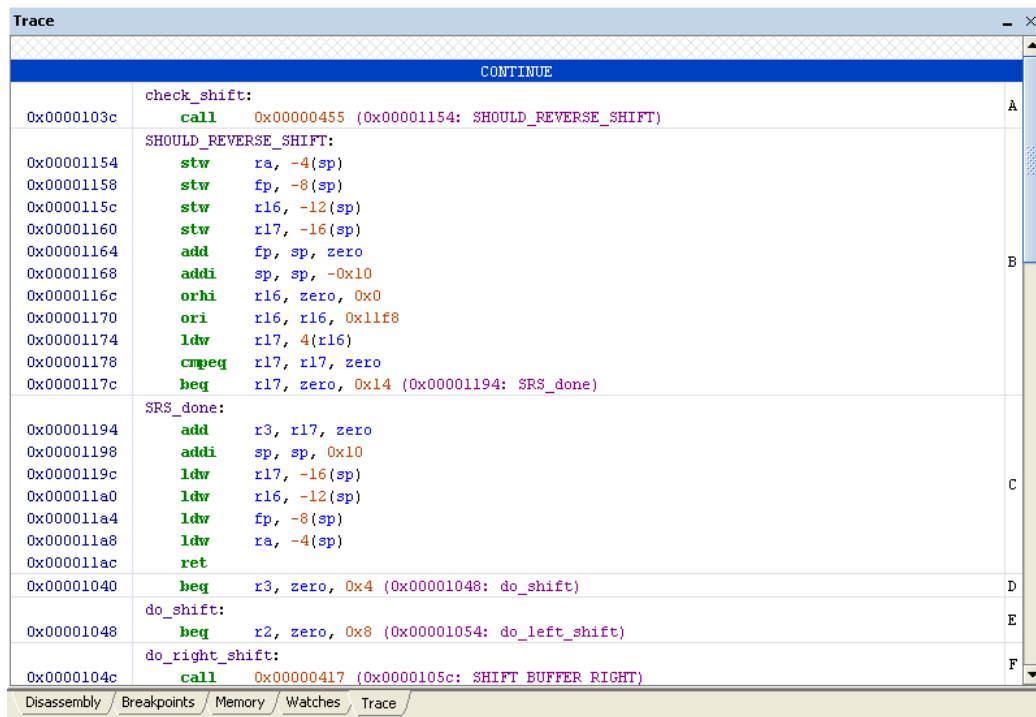

Figure 45. A partial view of the trace between the two breakpoints.
- Switch back to the **Trace** window. The window will now be displaying all the instructions executed starting from the first breakpoint to the second breakpoint, as indicated in Figure 45. As seen in the figure, the trace is divided into *instruction blocks*. Although it is not evident in this trace, the Debug Client will try to find repeated instruction blocks and common sequences to reduce the length of the trace on the screen.